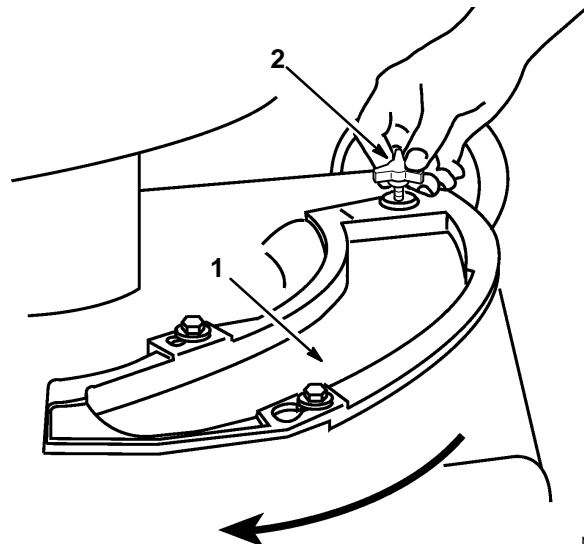

Figure 4
Your mower was shipped with a cover plate (Fig. 4). For side discharge operation the plate must be installed into deck opening.
2. Remove knob that fastens cover plate to the housing (Fig. 4).